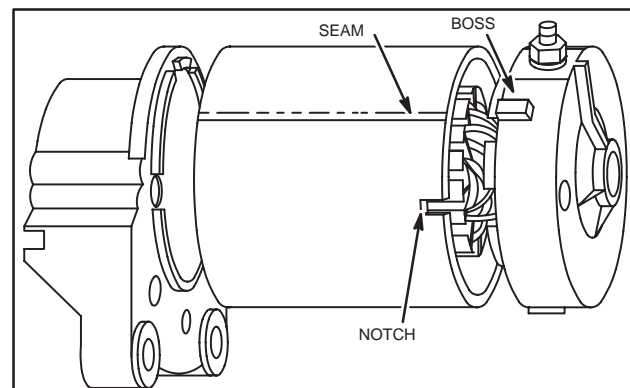

Fig. 37 – Assemble Starter
8. Align seam on housing with boss on brush end cap, Fig. 37. DO NOT damage magnets in starter housing.